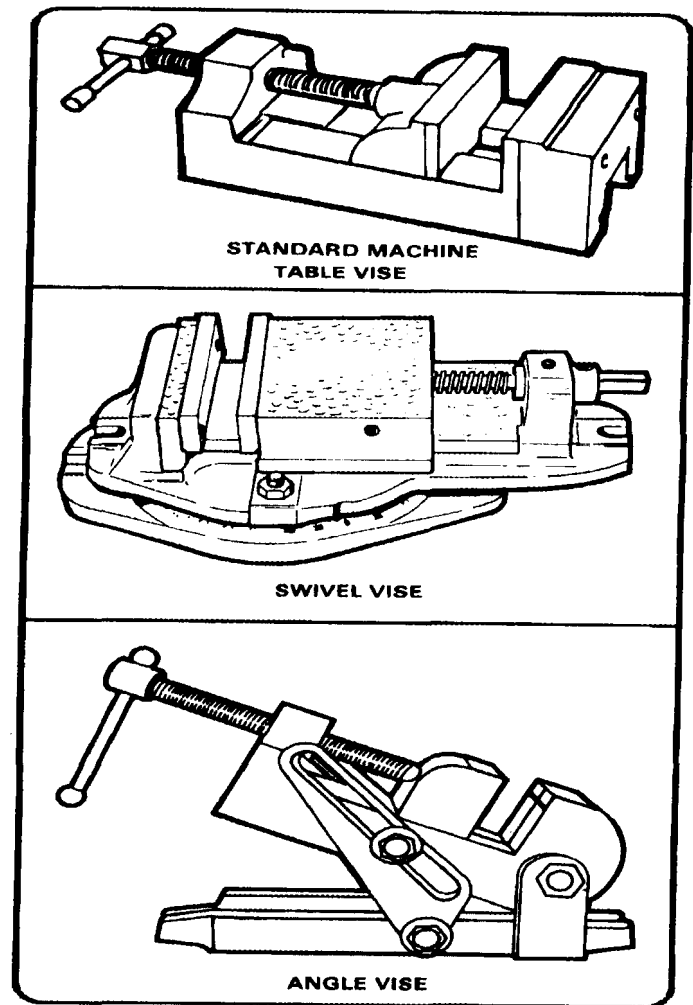

Figure 4-24. Types of vises.
- The standard machine table vise is the simplest of all vises. It is equipped with two precision ground jaws for holding onto the work and a lead screw to tighten the one movable jaw to the work (Figure 4-24).
- The swivel vise is a machine vise that has an adjustable base that can swivel through 360° on a horizontal plane (Figure 4-24).
- The angle vise is very similar to the table vise, except this vise can be tilted to 90° to be perpendicular to the work table (Figure 4-24).
Before attempting to use a drilling machine, some provision must be made for holding the workpiece rigidly and securely in place. The workpiece should always be firmly fastened to the table or base to produce holes that are located accurately. Use work holding devices to hold the workpiece (Figures 4-24 and 4-25). The two best methods to mount workplaces are explained below.